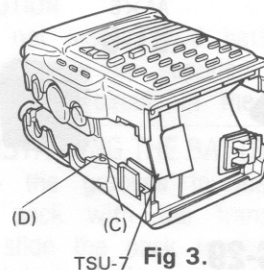

Fig 3.
5. Slightly lift the sides of the battery case at the front and rear, as shown in figure 3.
8. When putting the case back together, make sure the PTT switch base ( part C ) fits in the groove ( part D ) in figure 3.